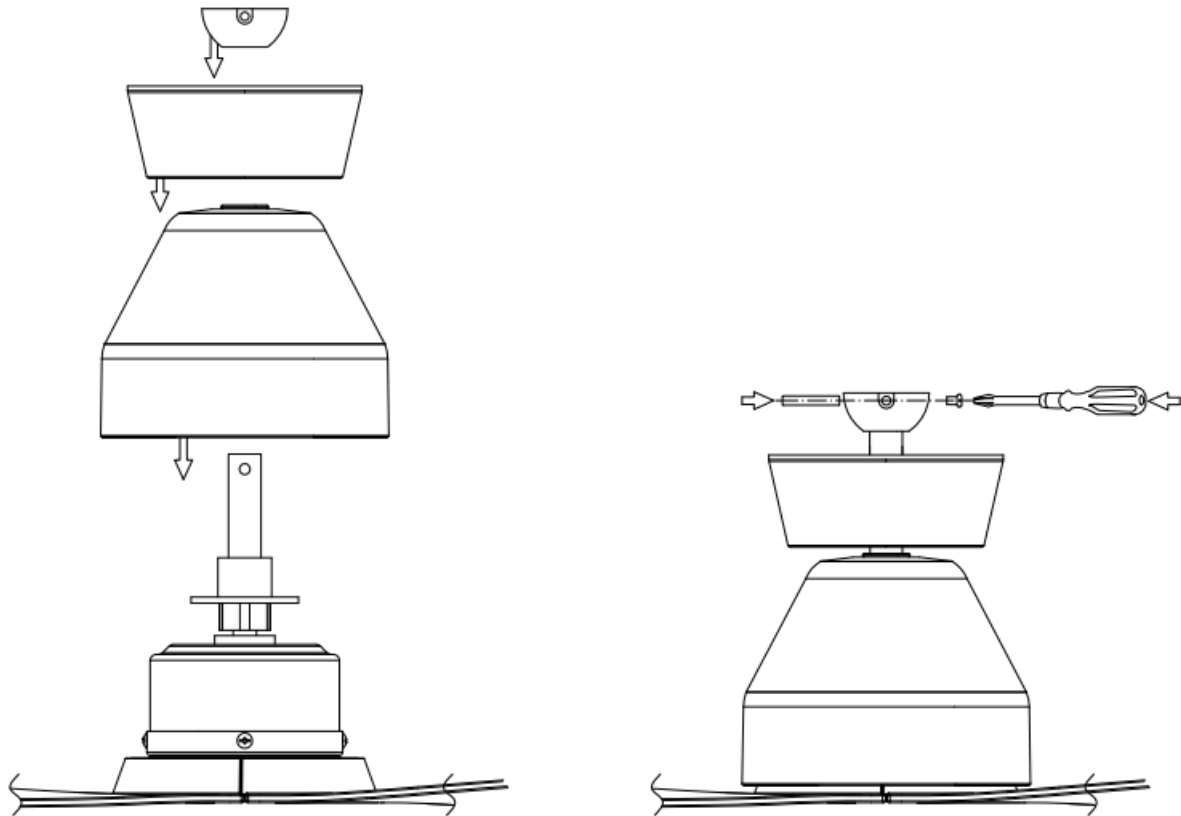

Fig. 6
- Reinstall the motor housing and canopy onto the down rod. (Fig.6)
- Reinstall the ball joint and dowel pin onto the down rod and secure using the set screw. (Fig.6)